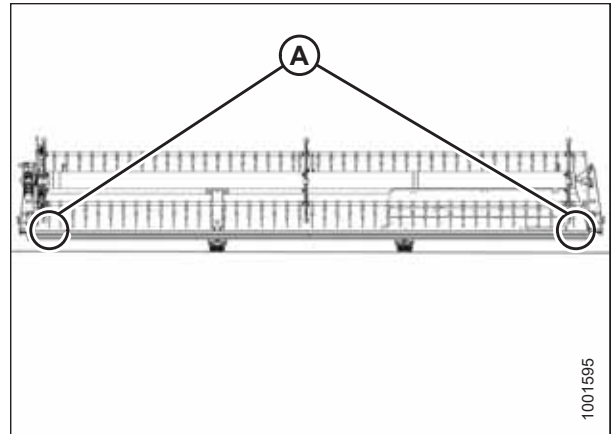

Figure 6.32: Single-Reel Measurement Locations
- Figure 6.32, page 75 – single reel